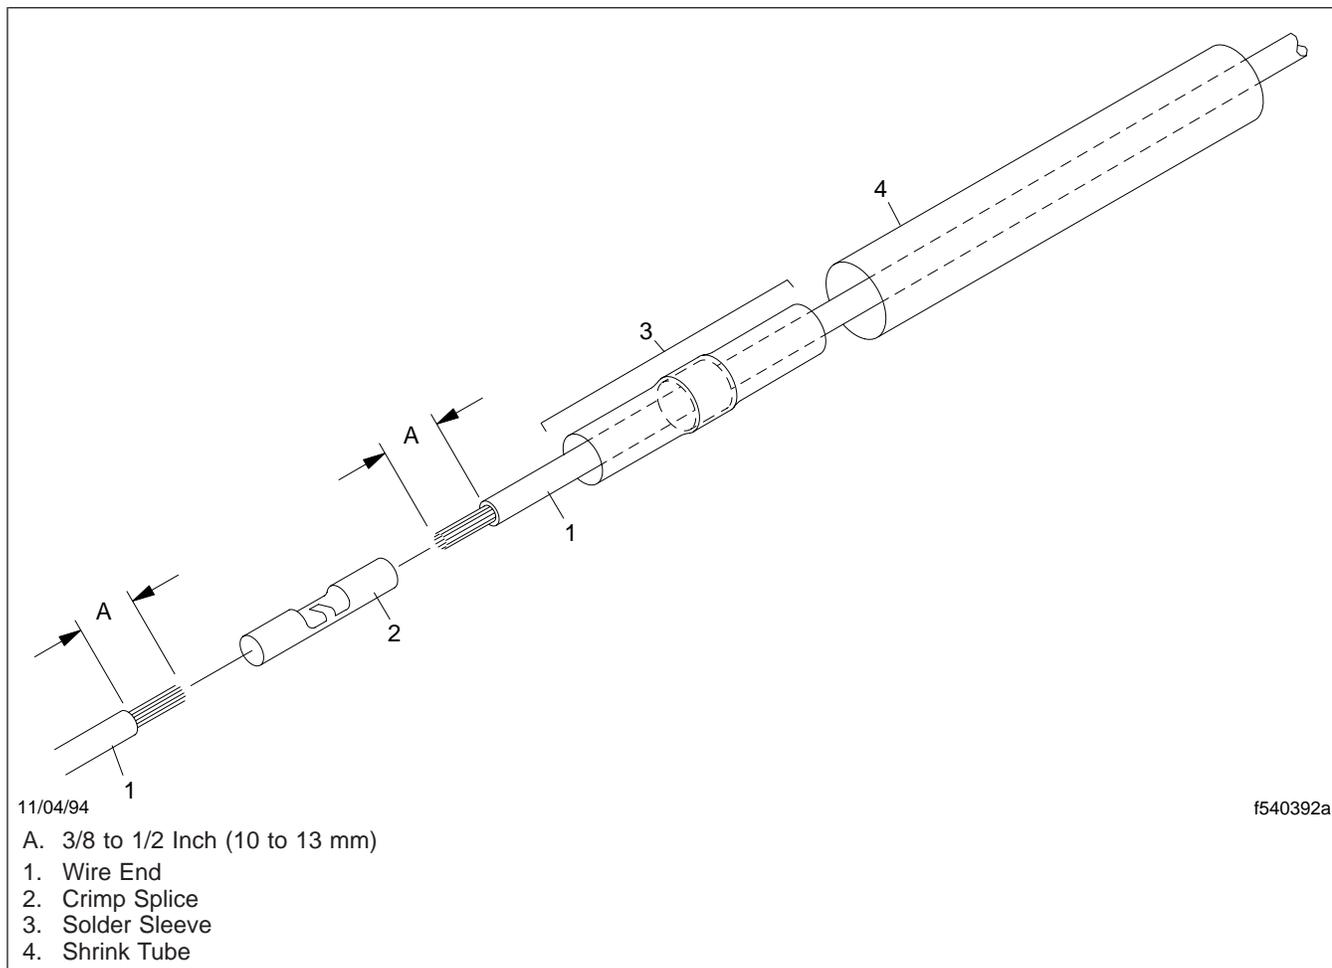

Fig. 1, Exterior Wire Repair
2. If repairing an exterior wire, slip a 3-inch (75-mm) long piece of shrink tube over one end of the wire. See Fig. 1, Ref. 4.
3. Slip a solder sleeve from kit ESYES66 404 over one end of the wire. See Fig. 1, Ref. 3.